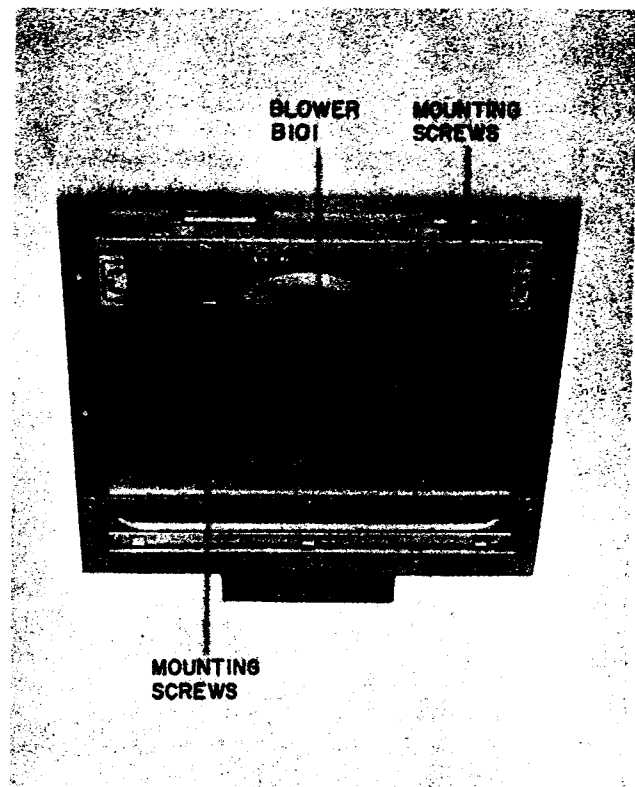

Figure 6-13. Electrical Equipment Cabinet CY-2607/WRT-1, Blower Replacement
Step 3. Refer to figure 6-13 and remove the screws which secure the blower mounting plate in position.